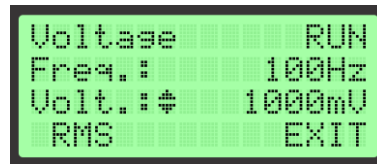

Figure 10 Changing Voltage
If the user sets the cursor to Voltage, after pressing Enter (E), Up-Down arrow will signal the device has entered the mode for changing Voltage value output (See Figure 10). Using Up (▲) and Down (▼) the user can increase and decrease voltage value. Pressing these keys long will automatically increase or decrease this value.